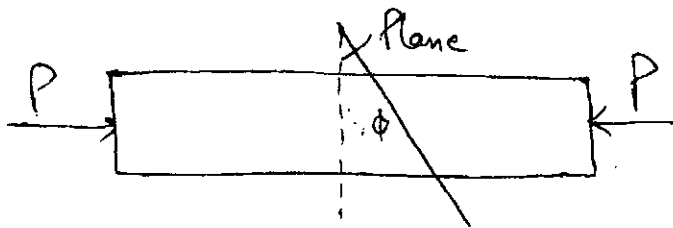

Fig. 3
- (b) A prismatic bar in compression has a cross-sectional area $A = 1200 \text{ cm}^2$ and carries a load $P = 90 \text{ kN}$ as shown in fig. 3. Determine the stresses acting on a plane cut through the bar at $\phi = 25^\circ$. Then show the complete state of stress